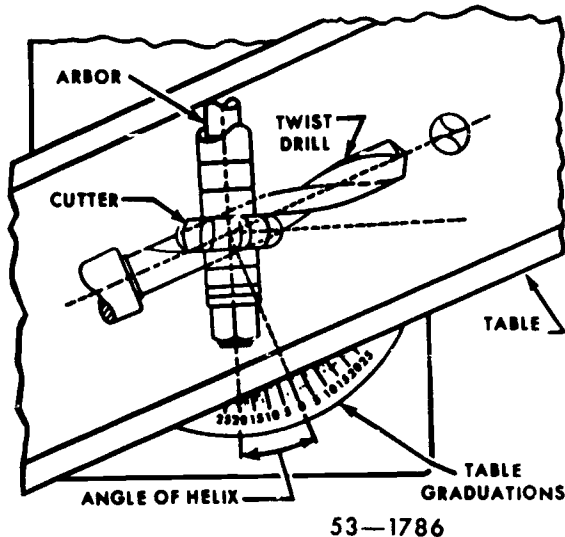

Figure 1-35 Helical fluting setup
**Helical Milling.** A helix is a curve or path formed by the progressive rotation of a point around the surface of a cone or cylinder, such as the thread of a screw. You form a helix on the milling machine by causing the work to rotate while it is fed longitudinally to the cutter. The work rotates because the table feed screw is geared to the index head. As the table feed screw revolves, the work revolves while it is fed to the cutter in a line parallel with its axis, as shown in figure 1-35.